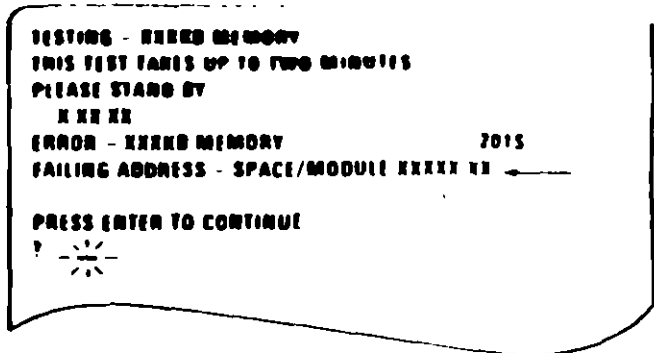

Figure 1. Advanced Diagnostic Error Message
- Note the seven-character error code (XXXXXX XX) as shown in Figure 1 on page 0200-3.